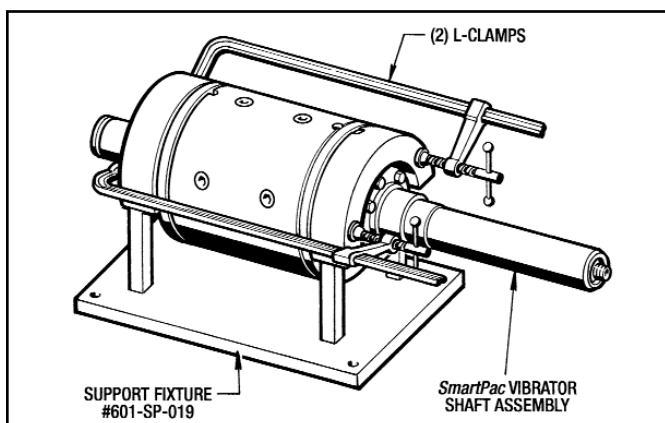
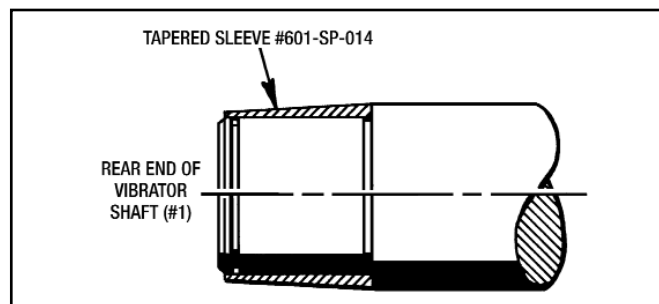

Figure 6.4 - L-Clamps and Support Fixture #601-SP-019
Figure 6.5 - Tapered Sleeve #601-SP-014
- Set the **SmartPac Assembly** on the Support Fixture #601-SP-019. (See *Figure 6.4*)
- Use the (2) **L-Clamps**, which are furnished in the Assembly Tool Kit, to clamp the **SmartPac Assembly** together as shown in *Figure 6.4*.
- Take the (2) L-Clamps off. The internal spring will force the Rear Hub Assembly back some. Continue pulling the Rear Hub Assembly off the rear of the Vibrator Shaft (#1).
- Take the Thrust Washers (#42a) and the Spring (#32) off the Vibrator Shaft (#1). **NOTE** - There are (2) Thrust Washers (#42a) for the 27.48" long shaft.
- Remove the (6) Flat Hd. Screws (#15) and slide the Sleeve (#17) off.
- NOTE** - These (6) Screws have Blue Loctite #242 on the threads. Use an impact wrench to break them loose. If they get damaged in removal, there are (6) new ones in the Minor Overhaul Kit.
- Put the **Tapered Sleeve #601-SP-014** on the rear end of the Vibrator Shaft (#1) as shown in *Figure 6.5*.